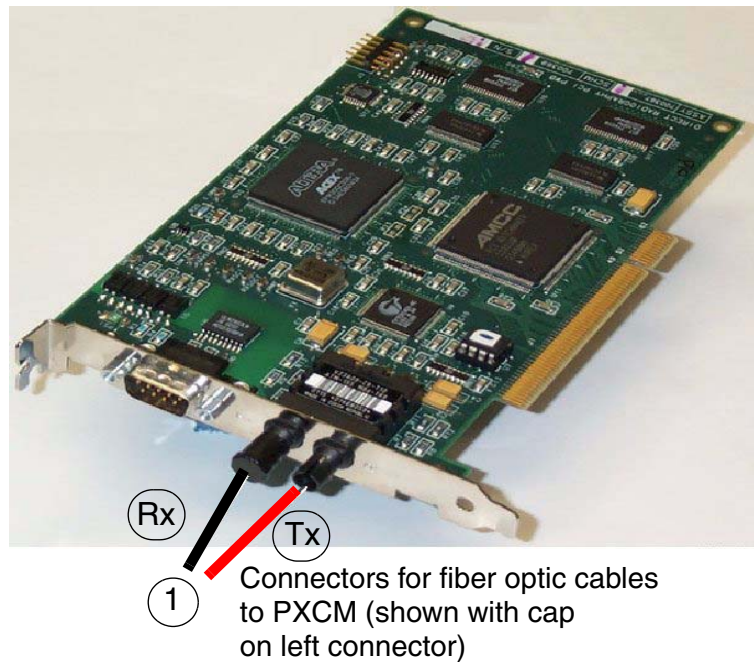

Fig. 2 PCI card connection
Fig. 2 shows the PCI interface card fiber optic connectors used for the cable that connects the BRICK to the PCI interface card.
1. Connect the fiber optics cable (1/Fig. 2) to the computer.